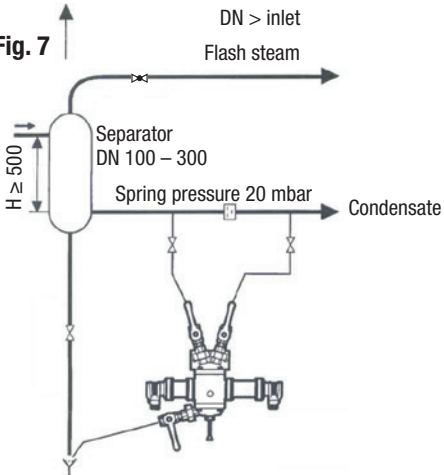

Fig. 9
If this does not help and/or a lot of flash steam occurs ahead of the measuring sensor, fit a separator upstream of the equipment. **Fig. 9**.
- Fig. 9** Installation example of sensor in a condensate line with large amount of flash steam.